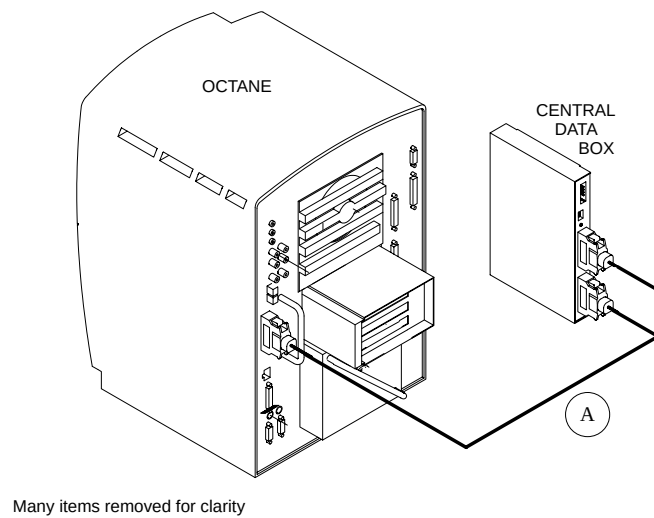

Figure 1-3 SCSI Cable Configuration without DASM
- 6.) At the Central Data Box, disconnect the SCSI cable that comes from the Octane computer. This cable is shown as cable A (2191432-2) in Figure 1-3.